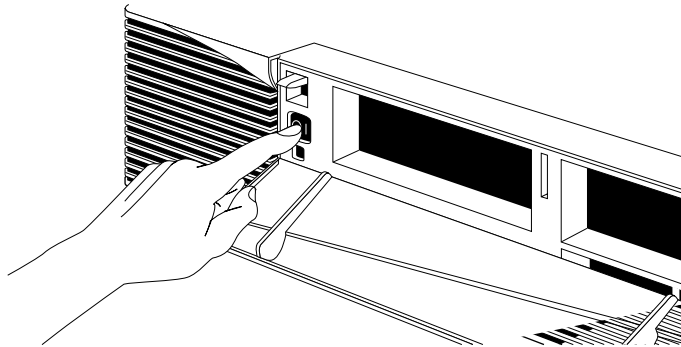

Figure 1-2 Pressing and Releasing the Power Switch
2. Press and release the power switch, as shown in Figure 1-2.